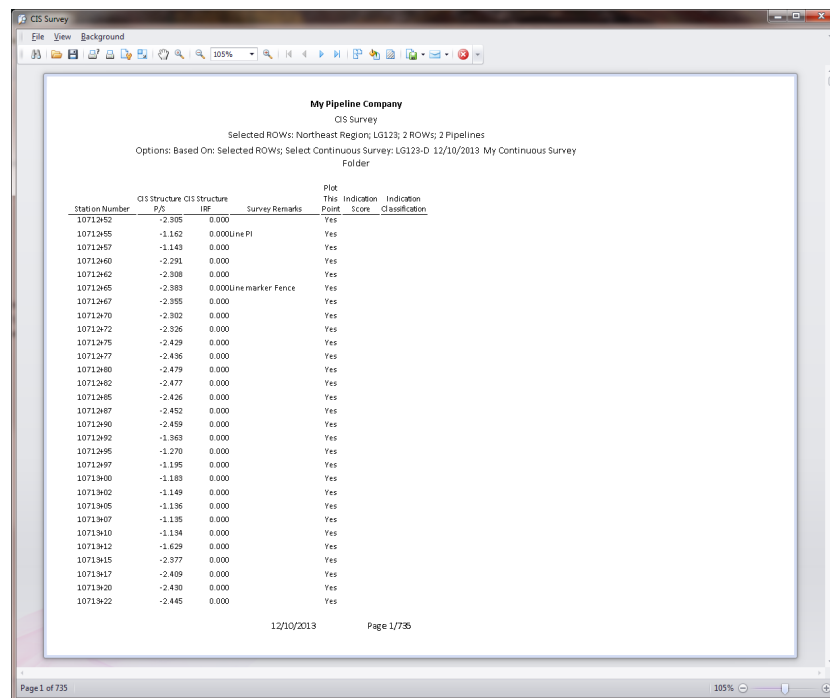

Figure 7-104. Print Preview
- 5 Click  **Print** to open a print preview window (Figure 7-104).